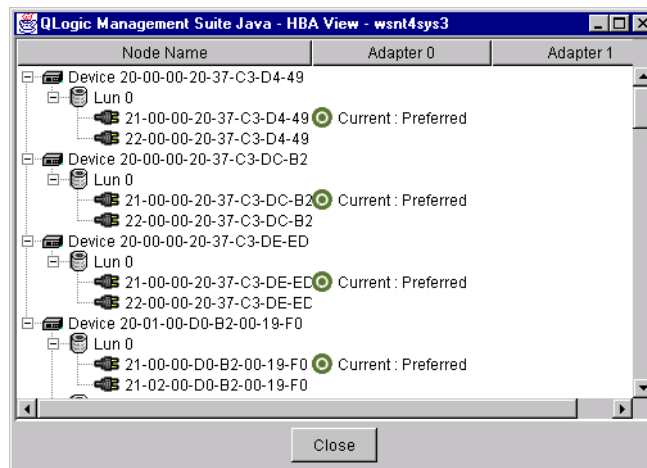

Figure 7-11. Current Path Dialog Box
- Right-click the host (or adapter, device, or LUN connected to the host) in the HBA tree. From the pop-up menu, select **Current Path**. The **Current Path** dialog box displays (see figure 7-11).